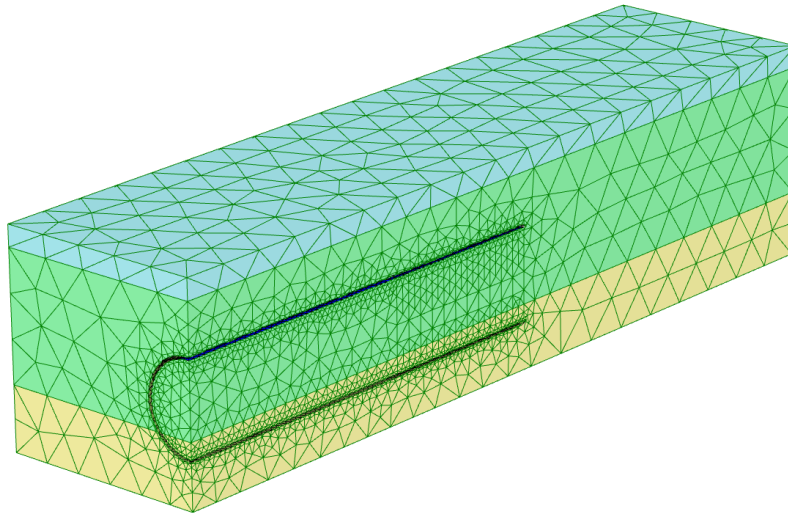

Figure 5–24: The generated mesh
- 2  Click the **View mesh** button to inspect the generated mesh (Figure 5–24 \(p. 105\)).